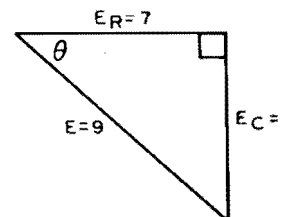

Figure A11
Refer to Figure A11. This triangle represents an RC circuit. The sides of the triangle represent circuit _____.
29. (opposite) The phase angle of the circuit represented by the triangle in Figure A11 is _____.
30. (39°) The adjacent side and the hypotenuse are given in Figure A11. Therefore you use the $\cos$.
Compute the capacitor voltage in Figure A11.
31. (5.66) You could use the sine function since you want to compute the opposite side. The adjacent side and hypotenuse are given in Figure A11 and θ was computed in the previous frame.